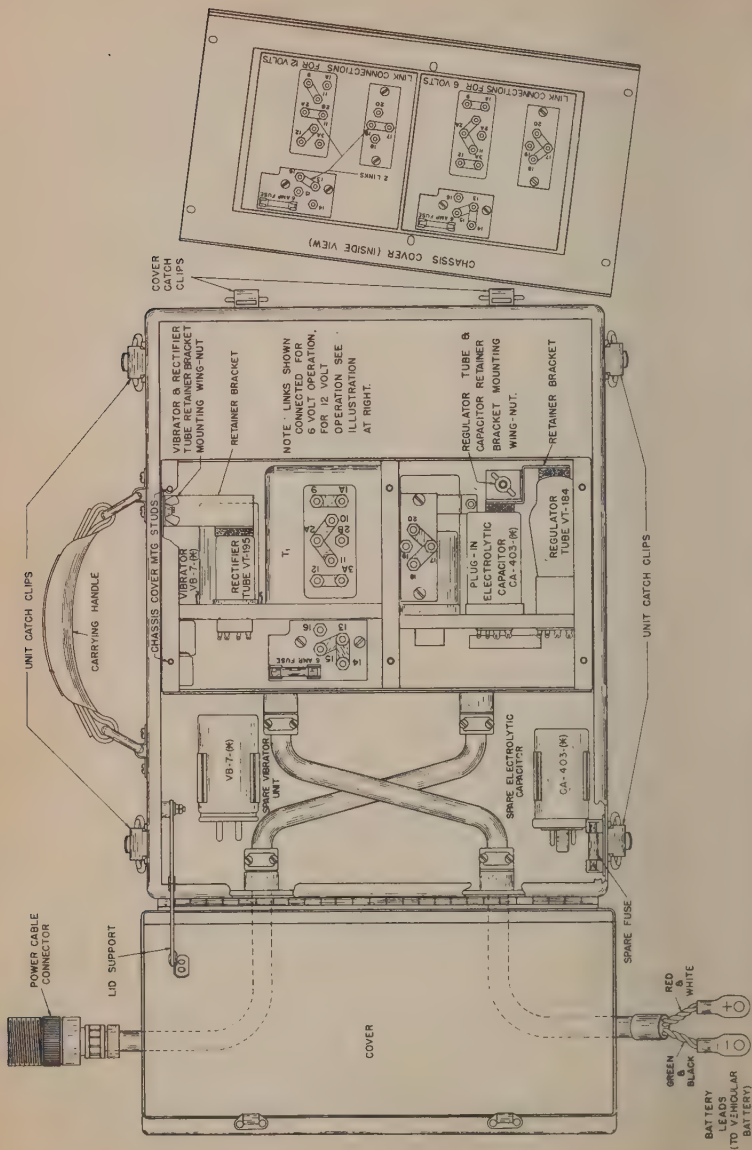

Figure 6. Plate Supply Unit PE-117-C,—Layout
(1) Open Plate Supply Unit PE-117-C, unscrew the six knurled nuts and remove the power pack cover. Figure 6 shows an interior view of the case. Check to make sure that Vibrator VB-7-(*), Tubes VT-184 and VT-195, Capacitor CA-403-(*), and Fuse FU-33 are properly installed in their respective receptacles. Also check to make sure that spare Vibrator VB-7-(*), Capacitor CA-403-(*), and Fuse FU-38 are also in their respective clips.
(2) *Vehicular Battery Operation.* Turn the meter control switch to PLATE, press the push-to-talk switch, and read the panel meter. If it reads less than 2 (the luminous spot), it indicates a weak storage battery, or trouble in Plate Supply Unit PE-117-C. Zero plate voltage may mean either a defective fuse, electrolytic Capacitor CA-403-(*), or Vibrator VB-7-(*). A spare of each of these is carried in the case of Plate Supply Unit PE-117-C. To replace any of these, refer to figure 6. Remove the cover of the vibrator pack to replace any of the above three parts. Replace the spare parts removed from the unit with new spares at the first opportunity. Turn the switch to FIL and read the meter. It should not be less than 2 (the luminous spot). A lower reading indicates low storage battery voltage, or failure of the vehicular battery.